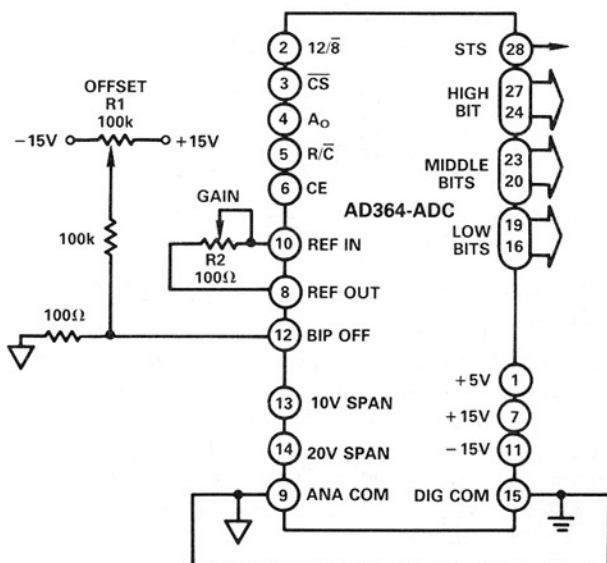

Figure 10a. Unipolar Gain & Offset
**Offset Adjust, AD364-ADC:** Offset adjust circuits for unipolar and bipolar operation are shown in Figures 10a and 10b. In each case the potentiometer should be a multi-turn, low temperature coefficient device, such as 20-turn cermet. Lowest offset drift in unipolar operation will be realized when the fixed resistors are low-TC ( $100\ \text{ppm}/^\circ\text{C}$ ) metal-film types.
\*Refer to Figure 10a for gain and offset adjustments.